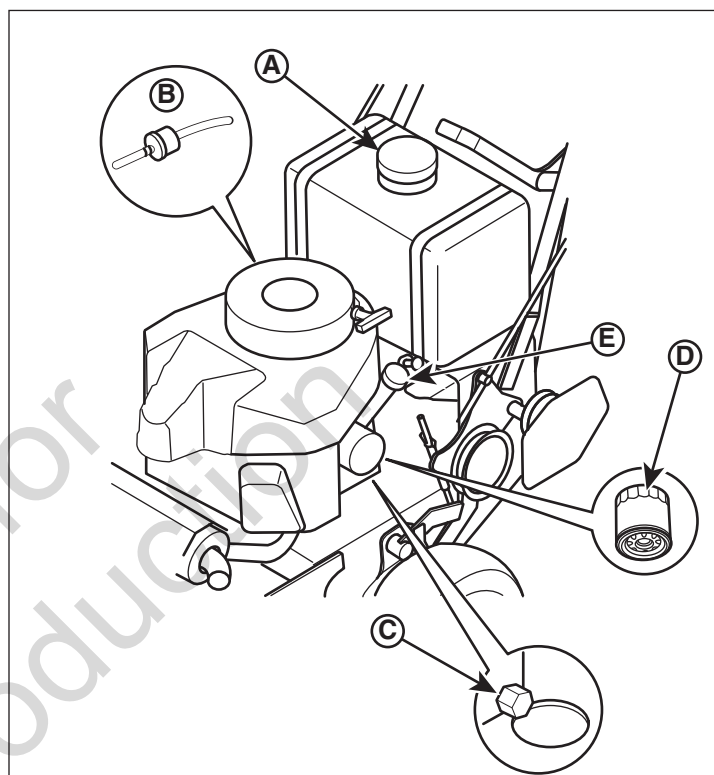

Figure 8. Engine Oil Drain
1. Remove the fuel cap (A, Figure 8).